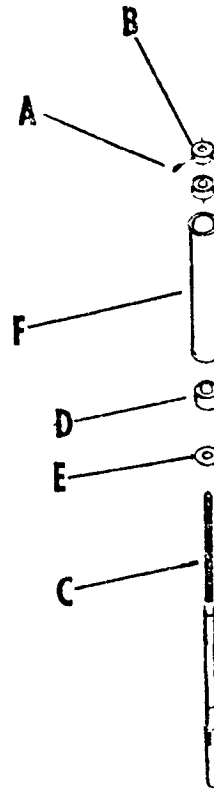

Fig 5 - Changing Spindles
6. Loosen the two set screws (A) in collar (B) Fig. 5 and remove collar.
7. With a hard rubber mallet, tap spline end of spindle (C). The spindle (C) with bearing (D) and flinger collar (E) will come out of the quill (F) Fig. 5.
8. Using an arbor press, remove bearing (D) and flinger collar (E) from spindle (C) Fig. 5.
9. To replace spindle, reverse above procedure making sure the bearing (D) and flinger collar (E) have been pressed tight against the shoulder on the spindle (C) Fig. 5, before replacing spindle in quill.
10. After replacing collar with set screws (A & B) Fig. 5, on the spindle, be sure there is not end play between spindle and quill. Play is eliminated by seating both bearings in quill.